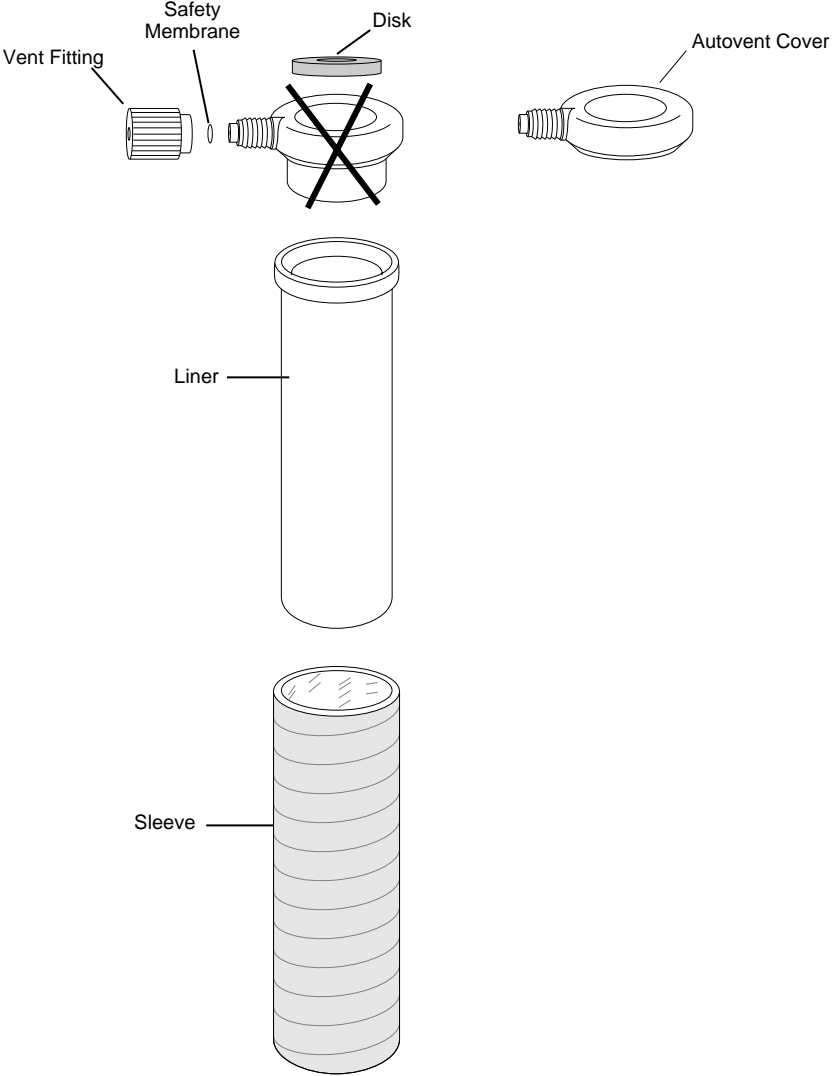

Figure 8. Assembly of Standard Vessel with Autovent Option
1. Assemble the standard HP-500 Plus or XP-1500 Plus vessels as outlined in this manual with the exception of the covers. Replace the standard covers with the autovent covers (figure 8).